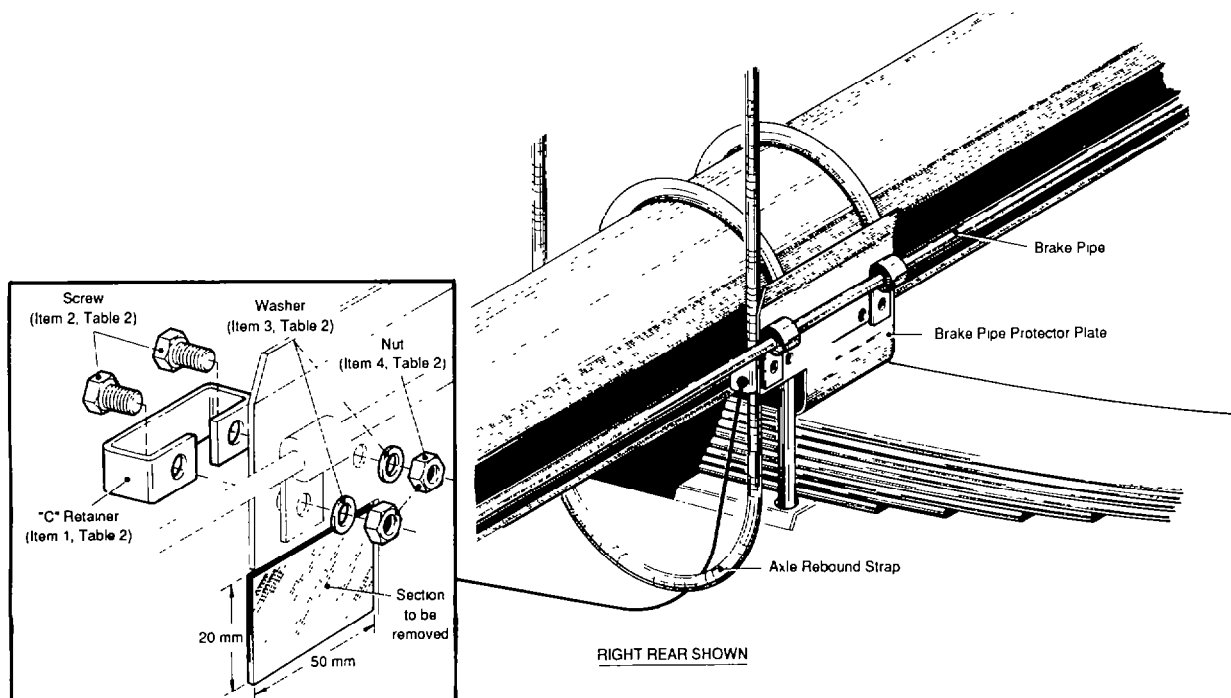

FIG 1 - REWORK OF BRAKE PIPE PROTECTOR PLATE AND FITMENT OF "C" SHAPED REBOUND STRAP RETAINER
- d. Rework the brake pipe protector plates by cutting a section approximately 50 mm x 20 mm, as shown in Fig 1, ensuring that the retainer clip mounting holes are not cut away.
- e. Attach the "C" retainers (item 1 from Table 1) to the brake pipe protector plates using the existing mounting bolts, washers and nuts and the new mounting screws, washers and nuts (items 2, 3 and 4 from Table 1), as shown in Fig 1.